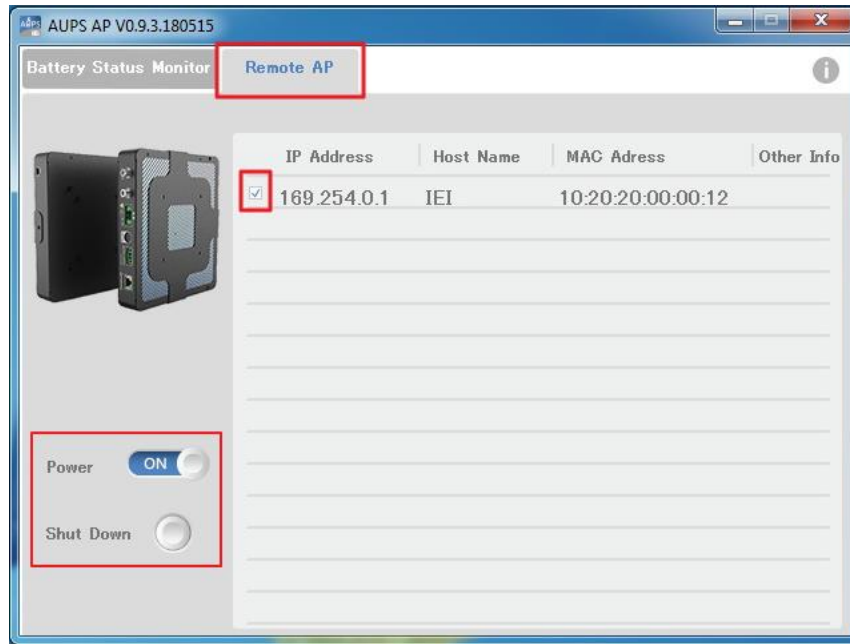

Figure 4-20: Remote AP
- Step 3:** On the IEI AUPS application screen, click the **Remote AP** tab (**Figure 4-20**). All the AUPS Series modules in the same subnet with this remote computer are shown in the list on the right. Check to select one or multiple device(s), then two function buttons will show on the left.